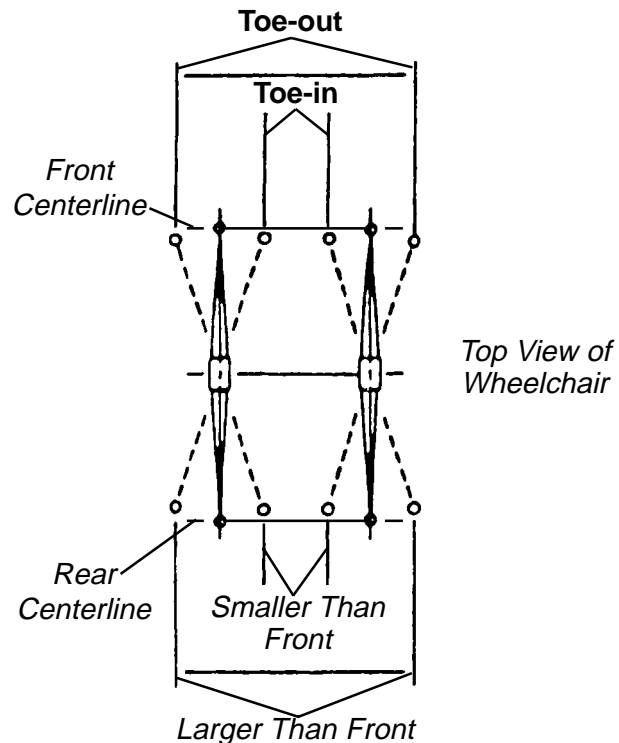

FIGURE 9 - DETERMINING TOE IN/TOE OUT - COMPARING CENTERLINE MEASUREMENTS OF REAR WHEELS
- Determine difference between two (2) measurements. If **difference** between the **two (2) measurements** is **GREATER** than **1/2-inch (0 ± 1/4-inch for maximum rollability)**, one (1) of two (2) conditions exists:
- If the **rear centerline measurement** of the rear wheels is **SMALLER** than the **front centerline measurement** of the rear wheels, a **TOE-OUT** condition exists (FIGURE 9).
- If the **rear centerline measurement** of the rear wheels is **LARGER** than the **front centerline measurement** of the rear wheels, a **TOE-IN** condition exists (FIGURE 9).